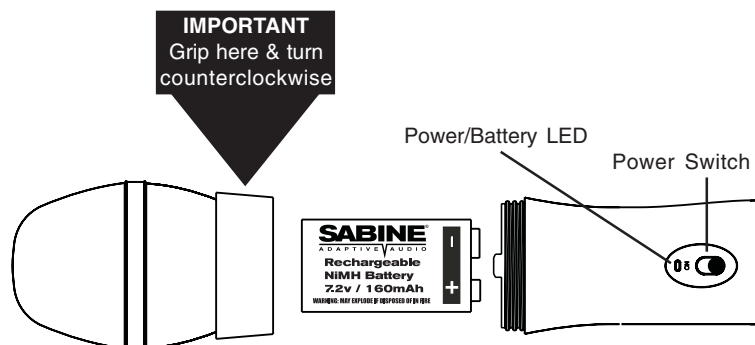

Figure 5p - Handheld Microphone Battery Replacement
1. Grip the microphone capsule as shown in Figure 5p. Unscrew the top of the microphone (counter-clockwise direction).
2. Insert a 9-volt battery into the battery compartment according to the correct polarity as shown in Figure 5p. Note that inside the microphone body, and at the bottom of the battery cavity, the hole for the positive contact is larger than the hole for the negative contact. The moment the battery touches the terminals inside the battery compartment, the